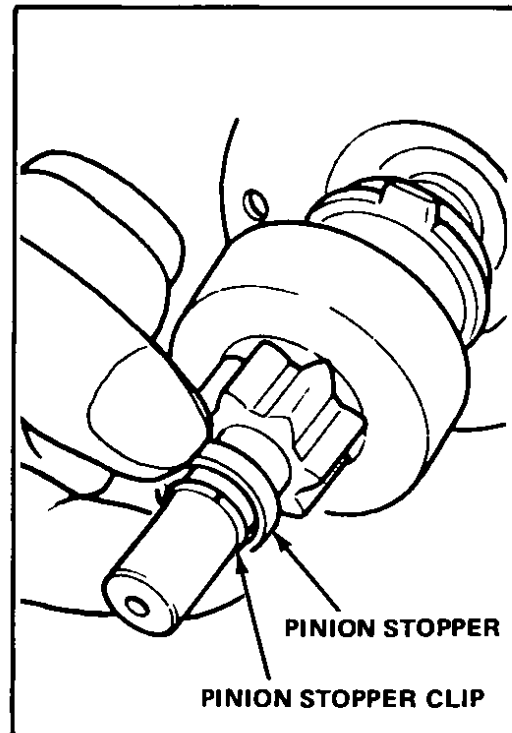

Fig 67 Removing pinion stopper
- 6 Remove the pinion stopper located at the end of armature shaft. To remove the pinion stopper, first move the stopper toward the pinion and remove the stopper clip, then remove the stopper with the overrunning clutch assembly from armature shaft, Fig 67